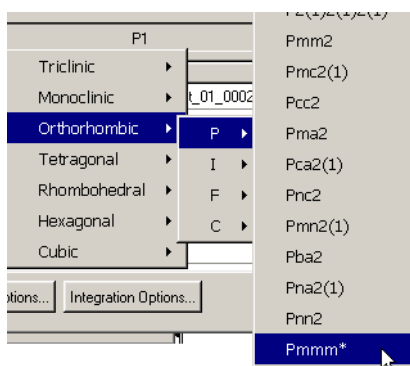

Figure B.5 - Space group tool
8. This defines the information on the runs, but the defaults for space group and resolution have not been updated. Click on Space Group and select the correct space group, in this case Pmmm. Actually, it is the Laue symmetry that is important here. you will note that 'Pmmm' is starred in the list, indicating a preferred choice (see Figure B.5).